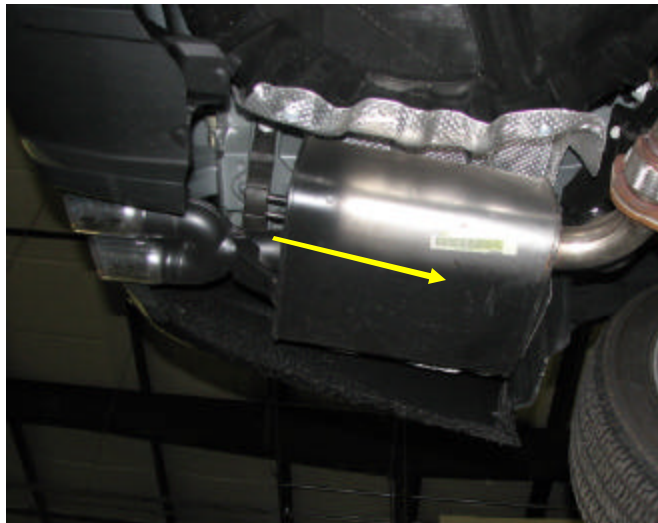

Figure 2: Removal of mufflers
- 3 Next, carefully remove each muffler off of the rubber isolators and discard. See Figure 2 below.